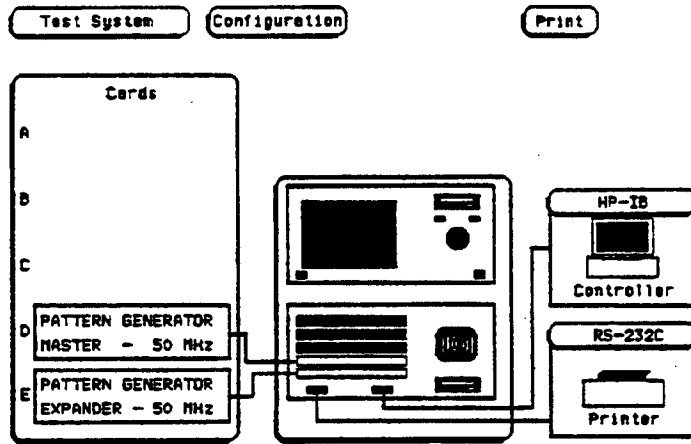

Figure 6-6. Test System Screen
- d. From test screen in figure 6-6, touch Test System, then touch Pattern Gen. (If multiple pattern generator modules, select the one to be tested)